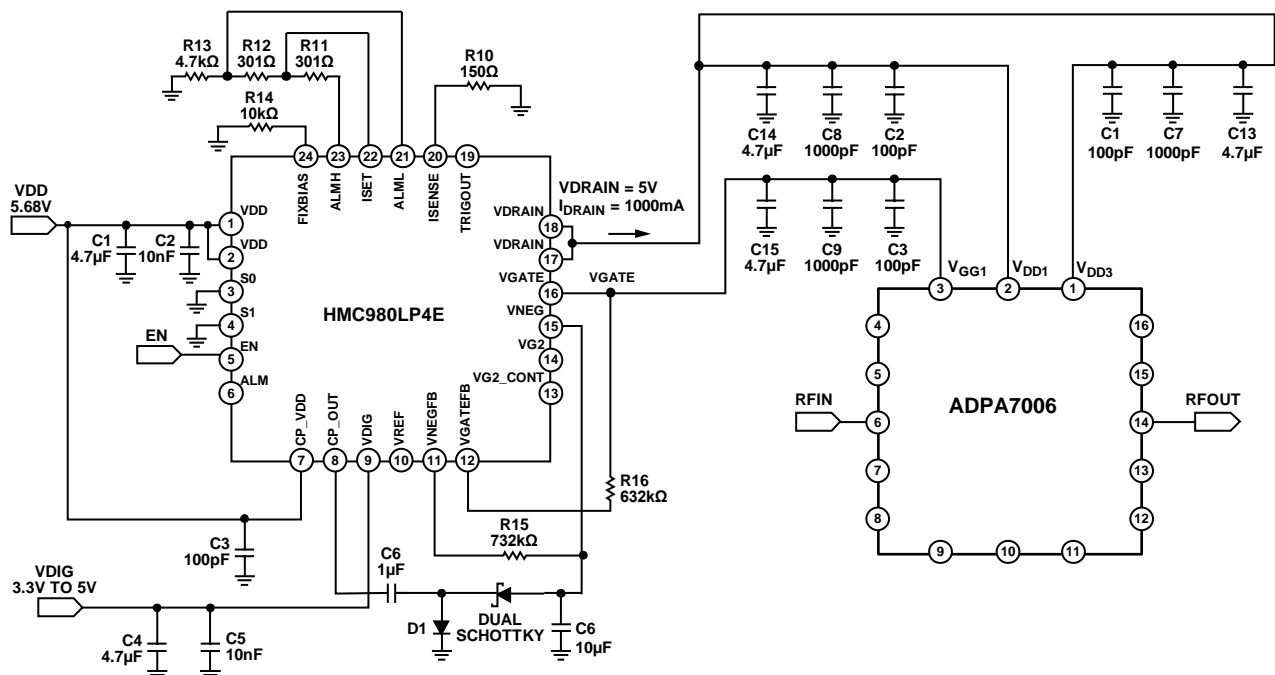
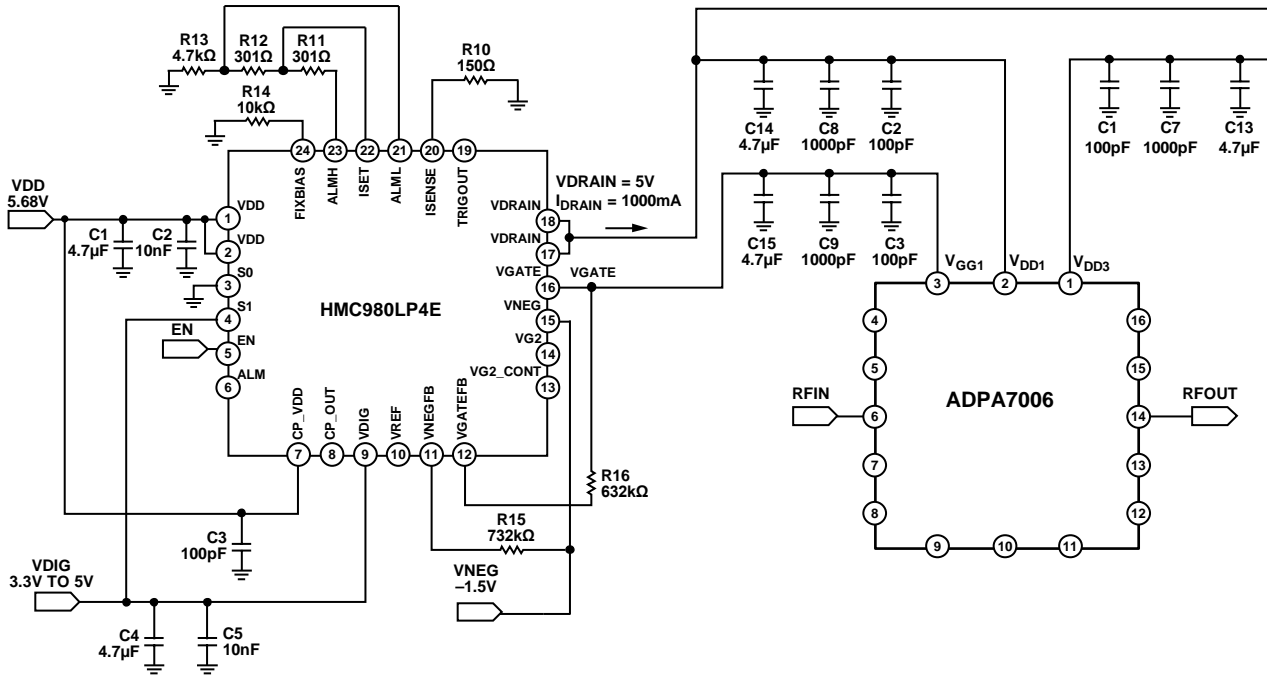

Figure 55. Application Circuit Using the **HMC980LP4E** with the ADPA7006
Figure 56. Application Circuit Using the HMC980LP4E with the ADPA7006 as an External Negative Voltage Source
When using an external negative supply for VNEG, refer to the schematic in Figure 56.
When using the ADPA7006 to control the **HMC980LP4E**, the minimum voltages for the VNEG and VGATE pins of the **HMC980LP4E** must be set to -1.5 V to keep these voltages within the absolute maximum ratings limit for the ADPA7006 V_{GG1} pin. To set the minimum voltages, set the R15 and R16 resistors to the values shown in Figure 55 and Figure 56. Refer to the [AN-1363 Application Note, Meeting Biasing Requirements of Externally Biased RF/Microwave Amplifiers with Active Bias Controllers](#), for more information and calculations for R15 and R16.
1. Set VDIG, the voltage supply input (Pin 9) for the HMC980LP4E digital circuit (see Figure 56), to 3.3 V.
3. Connect S1, the digital control pin (Pin 4) that sets the internal field effect transistor (FET) and the internal HMC980LP4E resistor (R_{DS_ON}) resistance (see Figure 56), to VDIG (3.3 V).